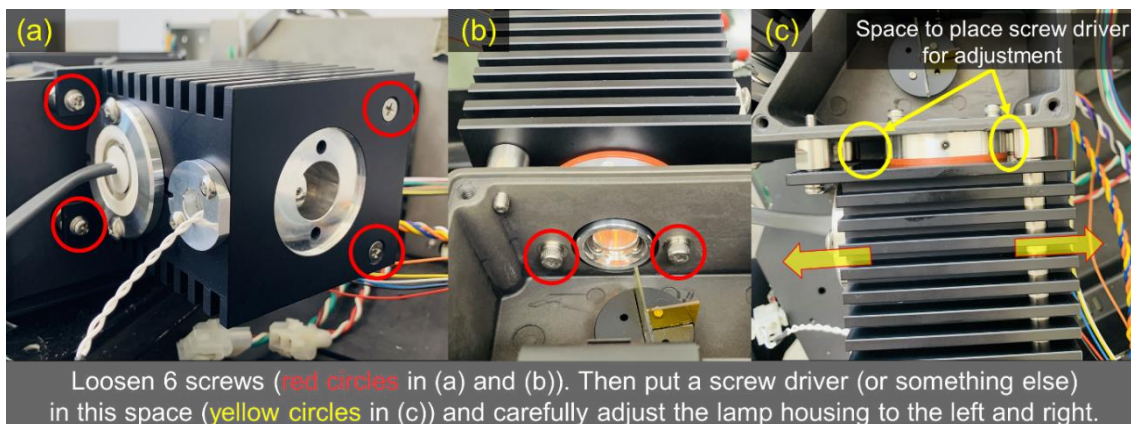

Figure 8. (a),(b) Location of screws to be opened for adjustment.
- d. If the light beam is not positioned on the center of slit, loosen four fixing screws on the lamp housing (refer to Figure 8-(a)) and two fixing screws located back
side of D2 lens (refer to Figure 8-(b)).
- e. Adjust the housing to focus the light beam on the center of the slit. At this moment, use a screwdriver for adjustment of the lamp housing between the lamp housing and body of the spectroscope as shown in Figure 8-(c).